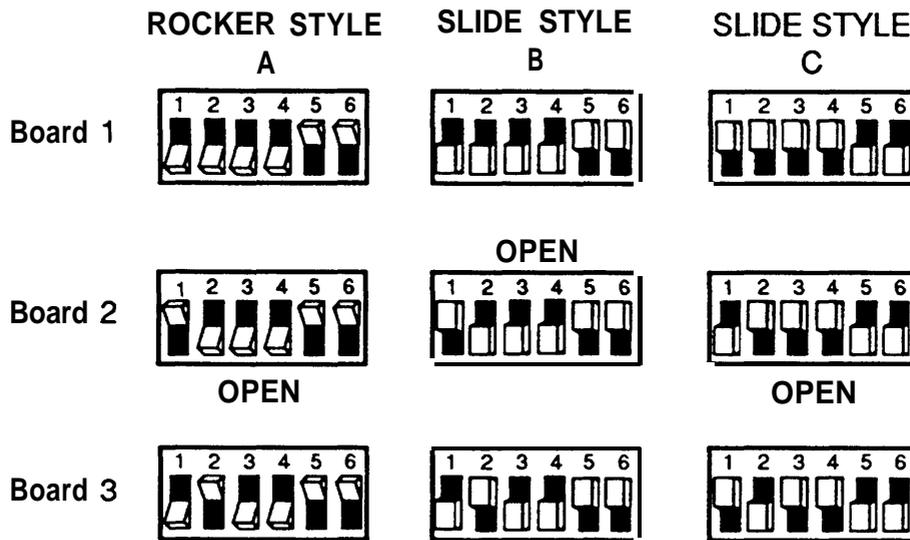

Figure 2-15. Settings for SW12.1
- If the board has unmarked slide switches, the setting of the second switch (SW12. 1) should correspond to one of the settings shown in Figure 2-15. Use the configuration letter at the top of the column in which the match is found.
The second switch (SW12.1) sets the board address. Figure 2-15 shows the correct settings for up to three boards in each of the three configurations.